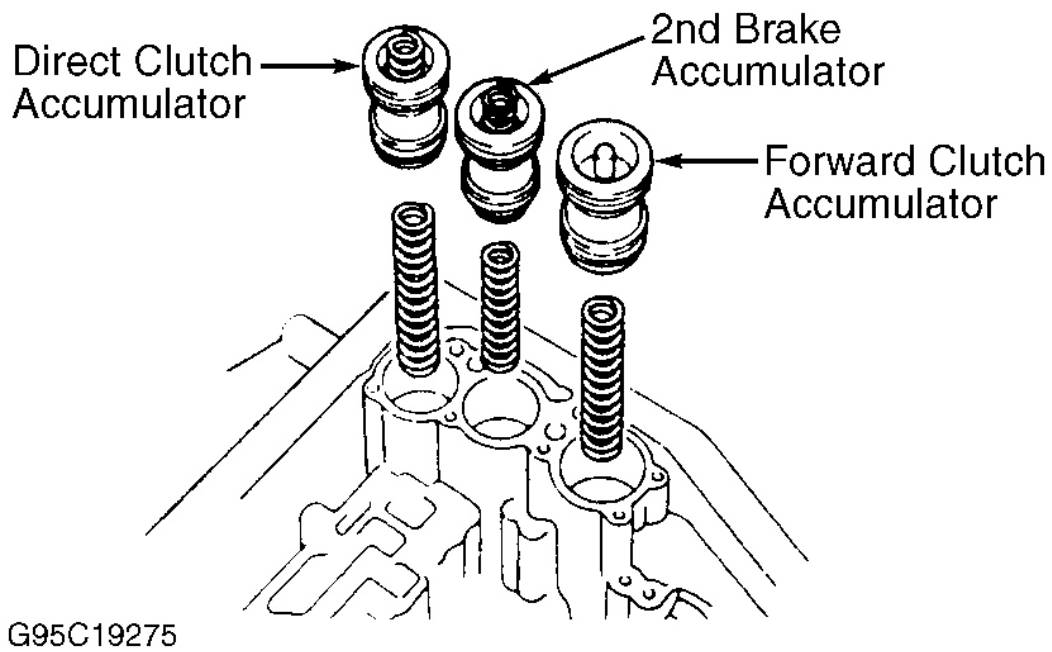
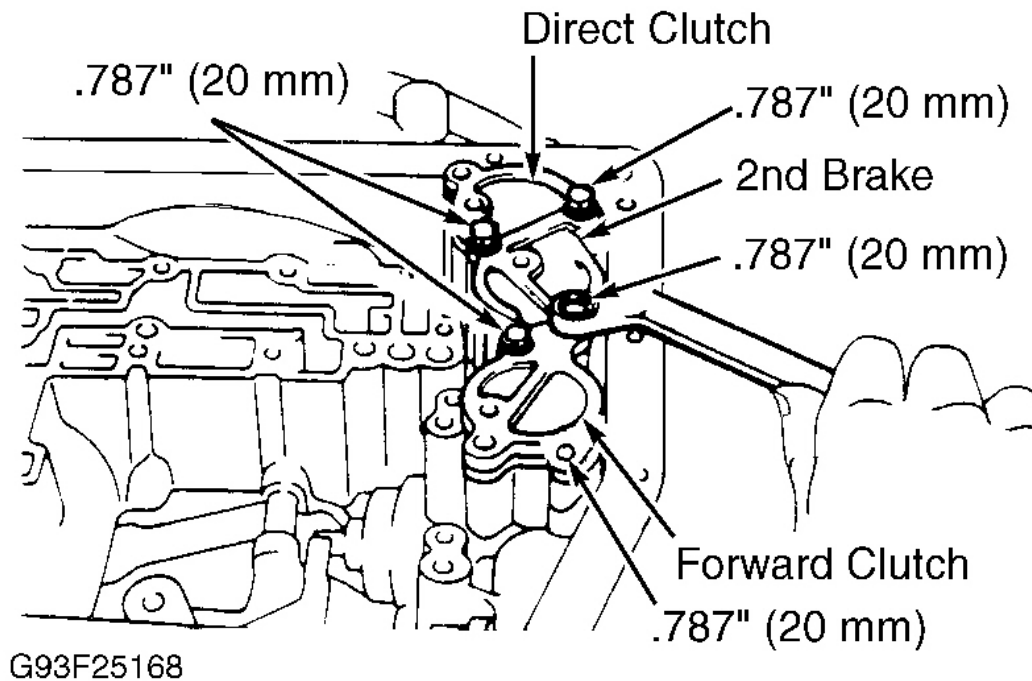

Fig. 49: Identifying Accumulator Locations
Fig. 50: Identifying Length & Location Of Accumulator Bolts
31. Install the accumulator pistons and springs into the bore. See **Fig. 49**. Verify correct spring installation. Refer to the **SPRING FREE LENGTH SPECIFICATIONS** table. Install cover with gasket. Tighten 5 bolts gradually to 89 INCH lbs. (10 N.m). Ensure proper length bolts are used. See **Fig. 50**.